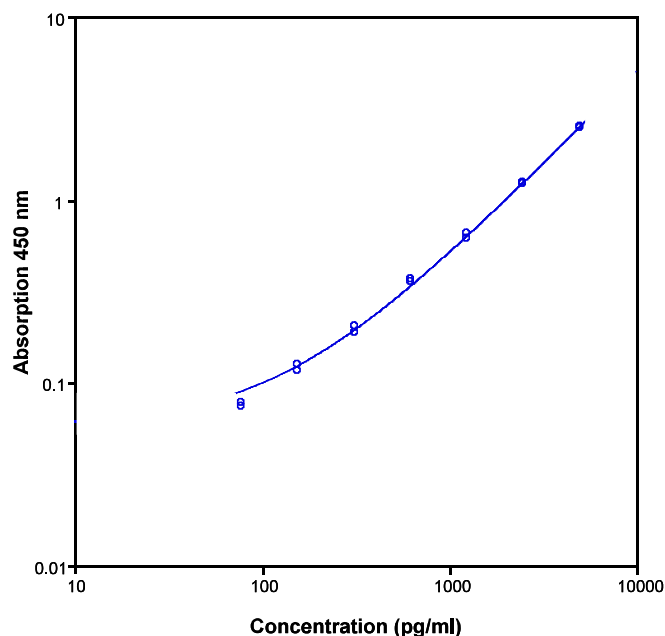

Fig. 8 Representative standard curve for Human IL-21 ELISA Kit. Human IL-21 was diluted in serial 2-fold steps in Sample Diluent.
- A representative standard curve is shown in Figure 8.